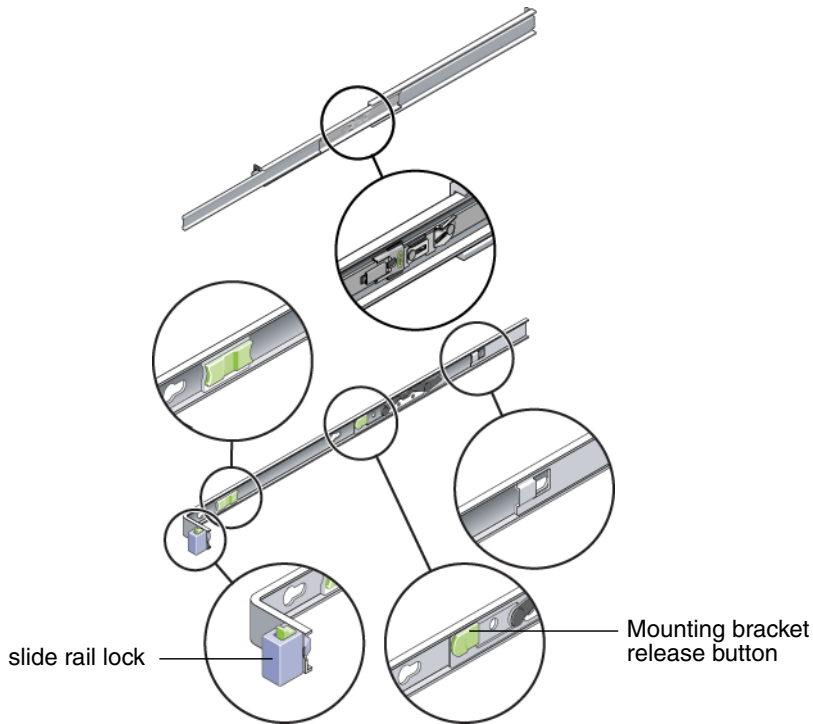

FIGURE 2-1 Disassembling the Slide Rail Before Installation
2. Locate the slide rail lock at the front of one of the slide rail assemblies, as shown in FIGURE 2-1.
3. Squeeze and hold the tabs at the top and bottom of the lock while you pull the mounting bracket out of the slide rail assembly, until it reaches the stop. See FIGURE 2-1.
4. Pull the mounting bracket release button toward the front of the mounting bracket, as shown in FIGURE 2-1, and simultaneously withdraw the mounting bracket from the slide rail assembly.